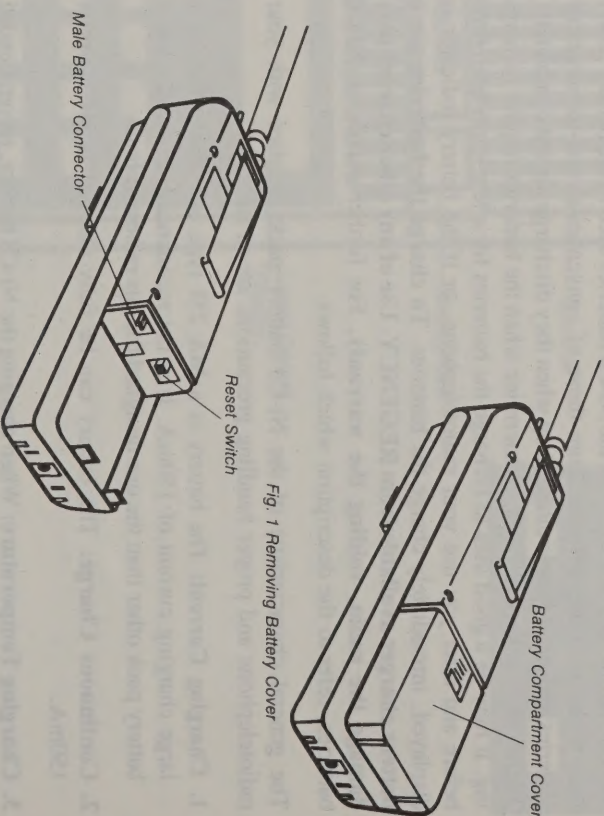

Fig. 1 Removing Battery Cover
1. The battery compartment is located on the rear of the unit. To remove the compartment cover, slide back the compartment door. Refer to Fig. 1.